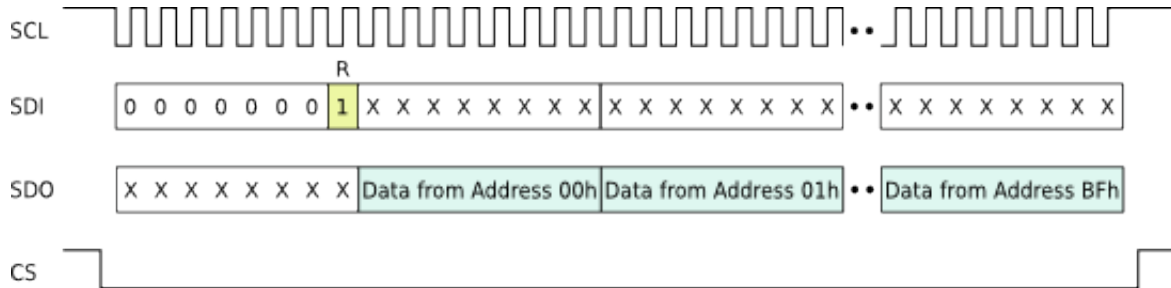

Figure 7: SIF2 Readout sequence through the ASIC’s SPI interface.
- reading the device’s ADC and configuration data as shown in Fig. 7